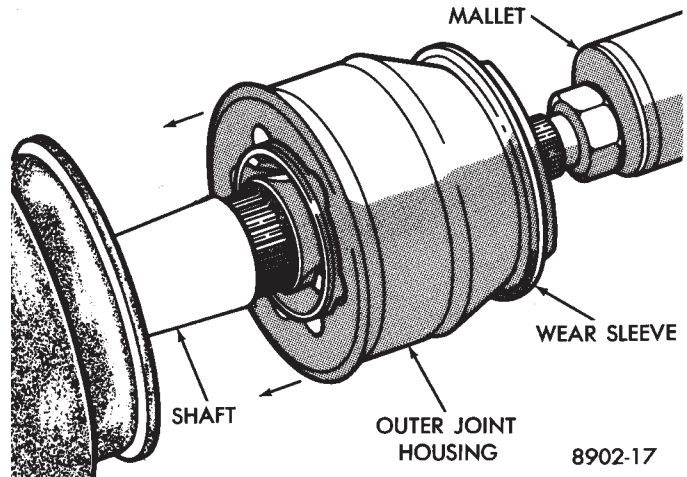

Fig. 9 Position Joint onto Shaft Splines
(11) Position outer joint on splined end with hub nut on stub shaft. Engage splines, and tap sharply with mallet (Fig. 9).
(12) Check that circlip is properly seated by attempting to pull joint from the shaft.
(13) Locate large end of boot over joint housing checking that boot is not twisted.
(14) Fasten boot to housing. See **Boots Install**.